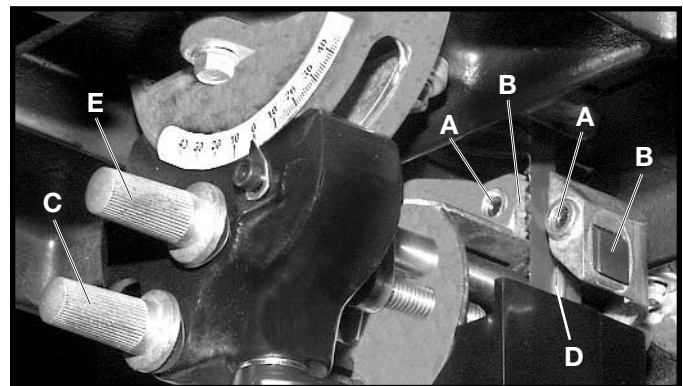

Fig. 36
2. Adjust the front edge of the guide blocks (B) Fig. 36 so that they are just behind the "gullets" of the saw teeth. Turn the knurled knob (C) Fig. 36 to make this adjustment. Check the support bearing (D) Fig. 36. It should not be touching the back of the blade.
3. Loosen the two screws (A) Fig. 36. Move the guides (B) as close as possible to the side of the blade, being careful not to pinch the blade. Tighten screws (A).
4. Turn the other knurled knob (E) to adjust the lower blade support bearing (D) Fig. 36 so that it is about  $1/64$ " behind the back of the blade.